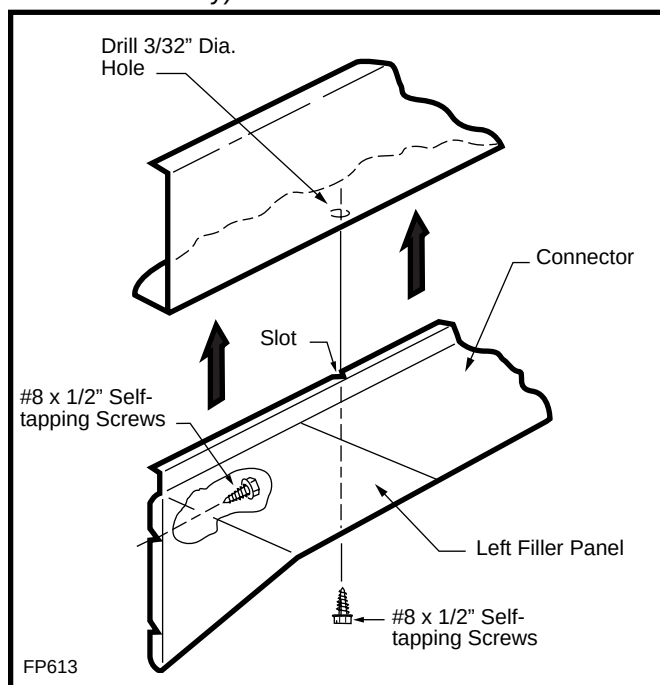
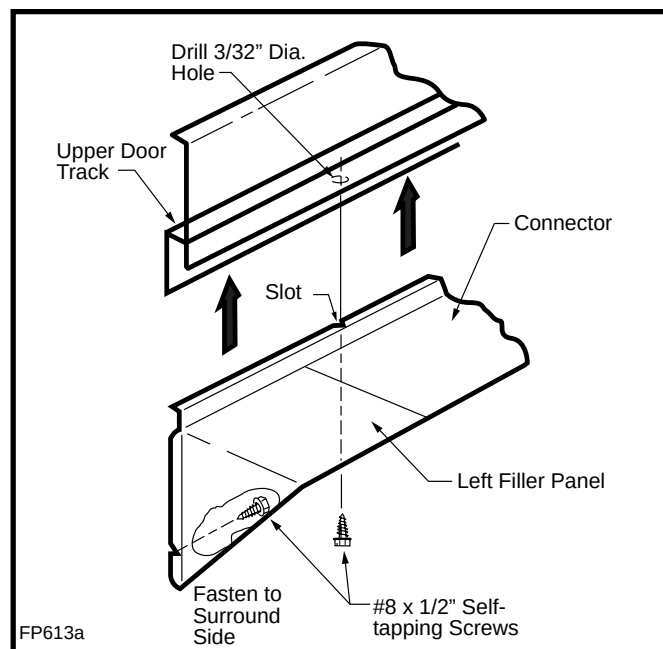

Fig. 3 Hood installation without door track.
Fig. 4 Hood installation with top door track.
- If the upper door track has been removed, follow the instructions for Figure 3. If the upper door track remains, skip Figure 3 and follow the instructions for Figure 4.